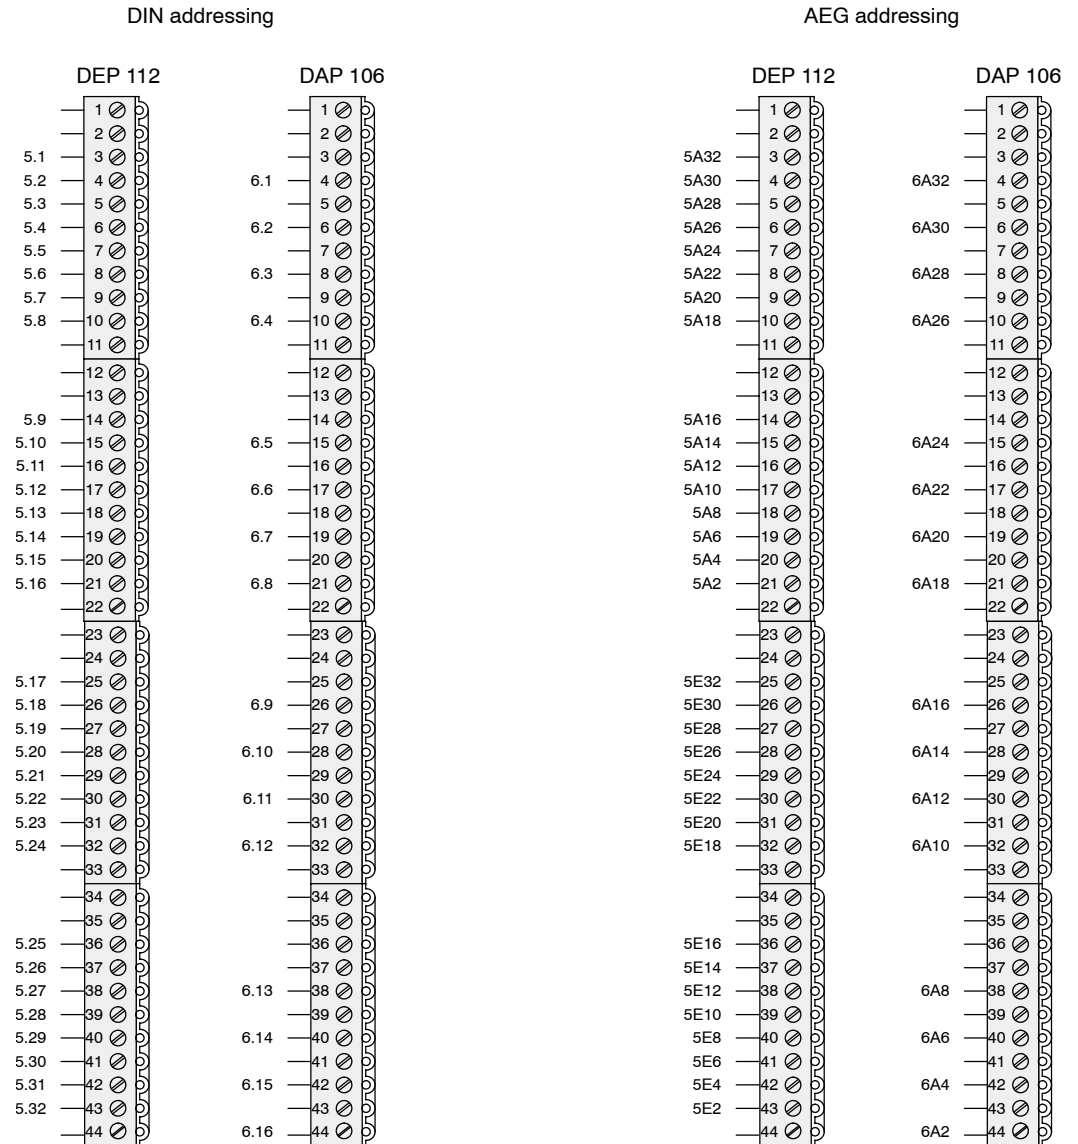

Figure 23 Addressing Example for a DEP 112 and a DAP 106 (DIN and AEG Addressing)
- The **port number** results by counting the terminals for the I/O signals from the top to bottom for the modules with front connection (cf. Figure 23, left-hand half).
- ❑ The assignment of the **port column** and the **port number** to the terminals depends in the I/O modules with front connection and is documented in the module descriptions. Figure 23 shows a DEP 112 on slot reference 5 and a DAP 106 on slot reference 6 as an addressing example for the I/O modules with front connection.
An AND block (Dolog block) is to link the two upper inputs of the DEP 112 from Figure 23 to each other and output the result to the lowest output of the DAP 106 .